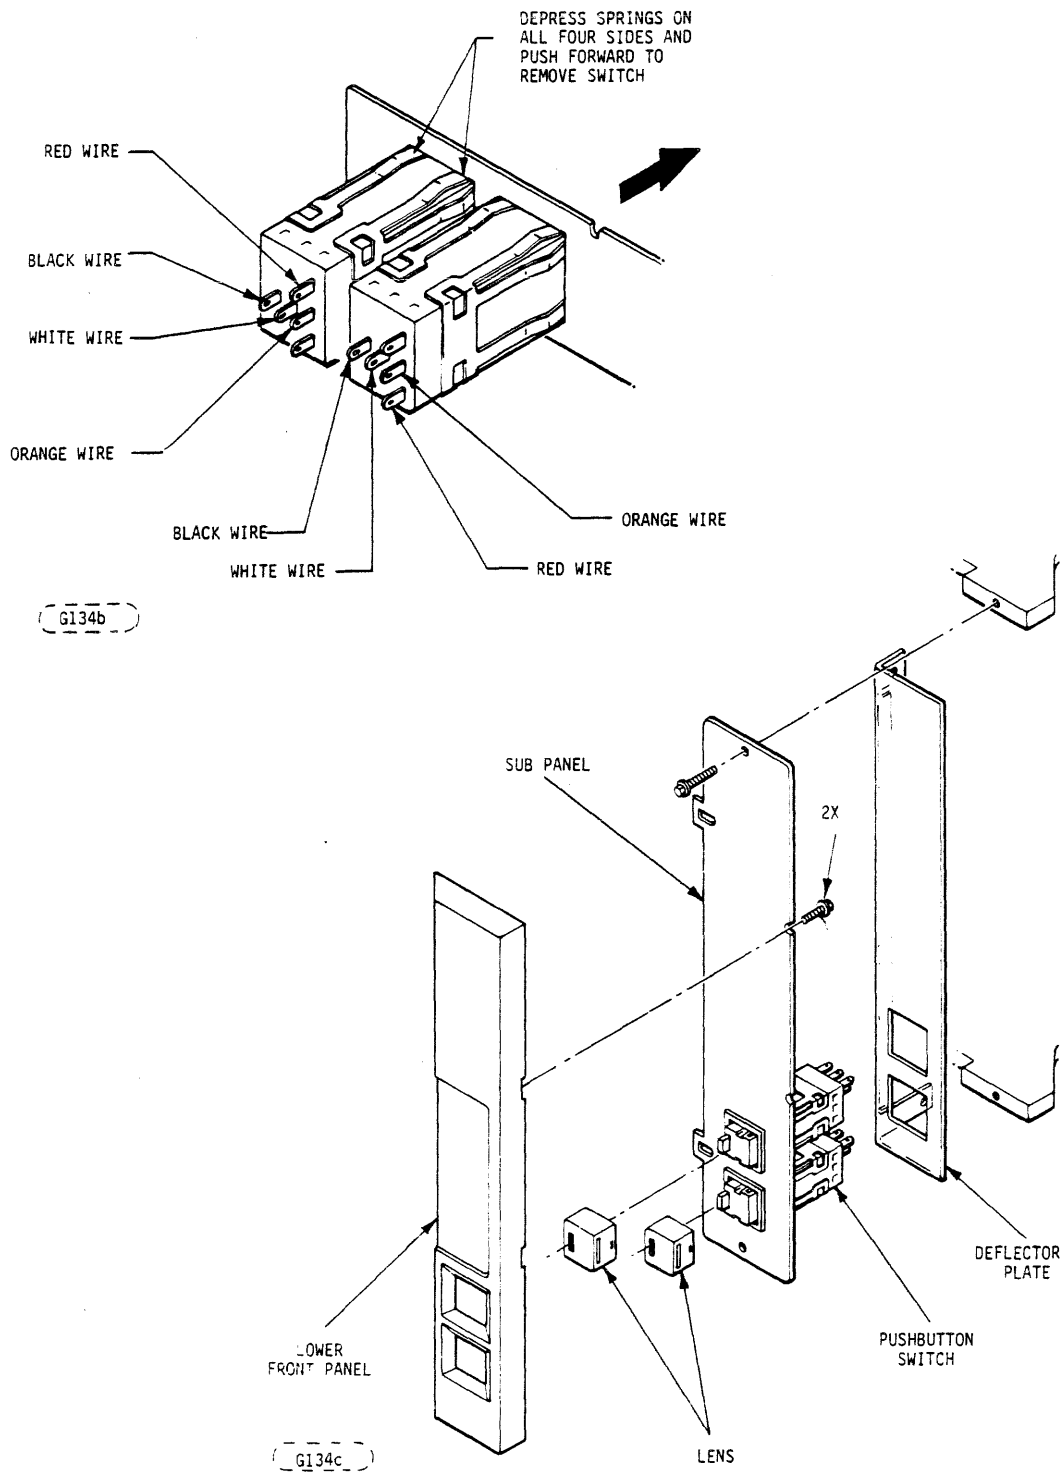

FIGURE 6-6. FRONT PANEL SWITCH REMOVAL
2. Using 3/16 in. nut driver, remove two (2) screws that secure lower part of front panel to sub-panel (refer to Figure 6-6) and remove lower part of front panel.
5. Remove two (2) screws that secure sub-panel to casting and remove sub-panel (switches will pass through holes in deflector plate).